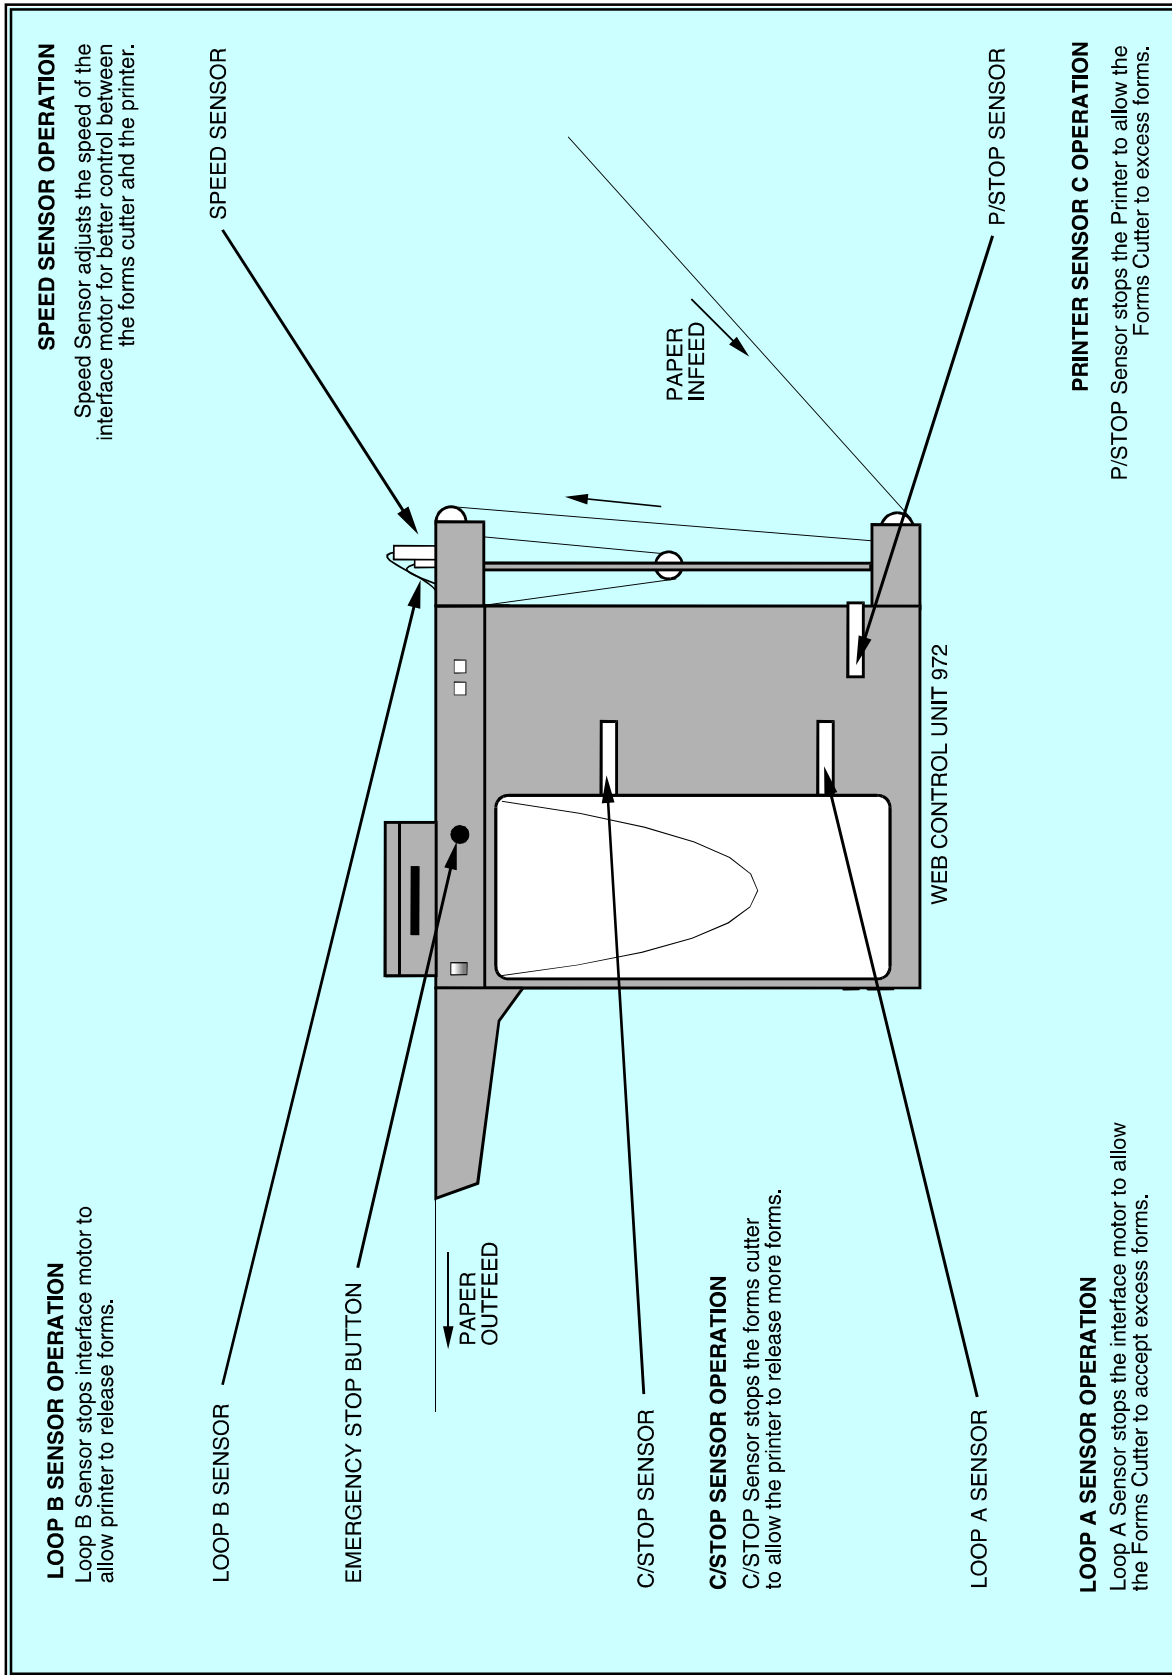

Fig 1.3 Paper Path & Functions of Sensors
- Load the paper web through the complete system, ensuring the paper is looped and held under tension on the 972 where necessary, as shown in Fig 1.3.
- The route the paper takes through the 972 and the functions of the sensors are described on Fig 1.3.